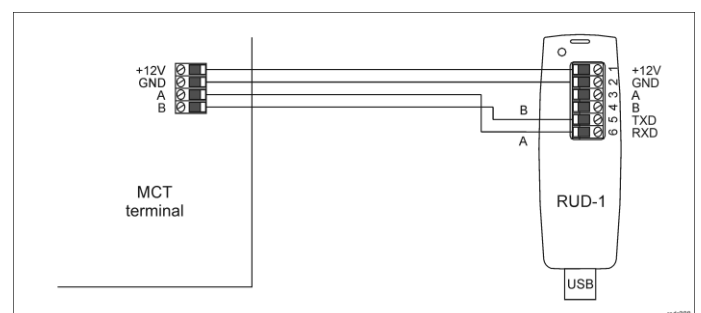

Fig. 2 Connection of MCT reader to RUD-1 interface (firmware update)
The firmware of device can be changed to newer or older version. The update requires connection to computer with RUD-1 interface (fig. 2) and starting RogerVDM software. The latest firmware file is available at www.roger.pl.
1. Connect the device to RUD-1 interface (fig. 2) and connect the RUD-1 to computer's USB port.